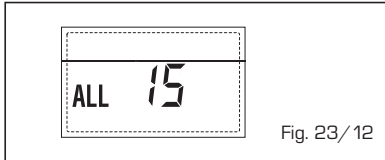

Fig. 23/12
- EXTERNAL PROBE ANOMALY "⬆️⬆️ FLASHING" (fig. 23/13)